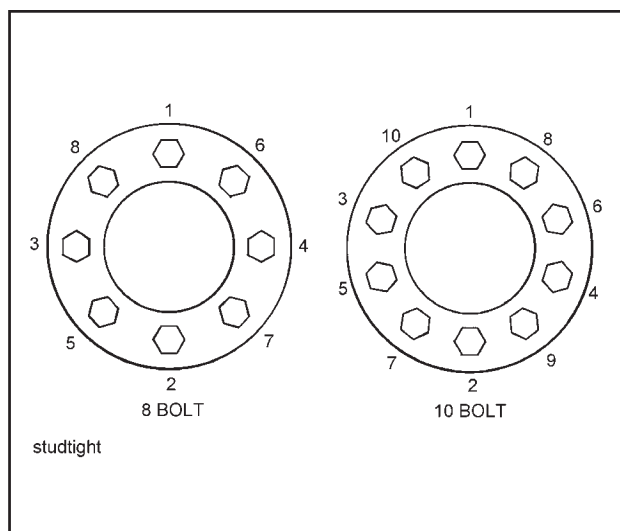

Figure 4-20 Stud Tightening Sequence
- d. Install the flange nut and tighten to 50 foot-pounds using the sequence in **Figure 4-20**. Then tighten to full torque of 450 to 500 foot-pounds.